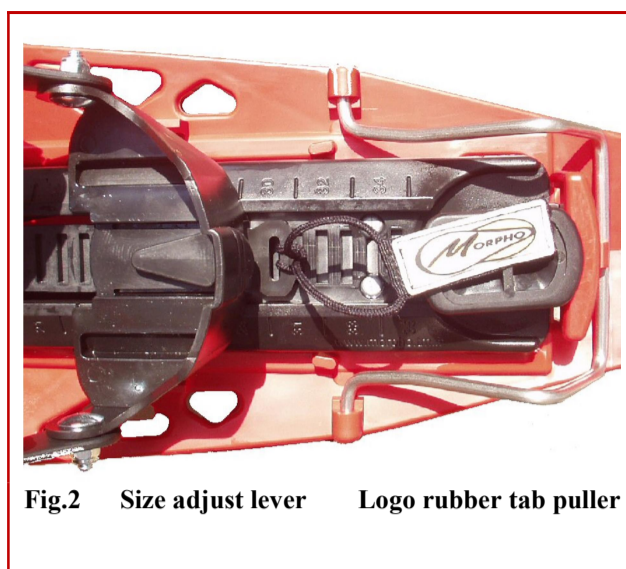
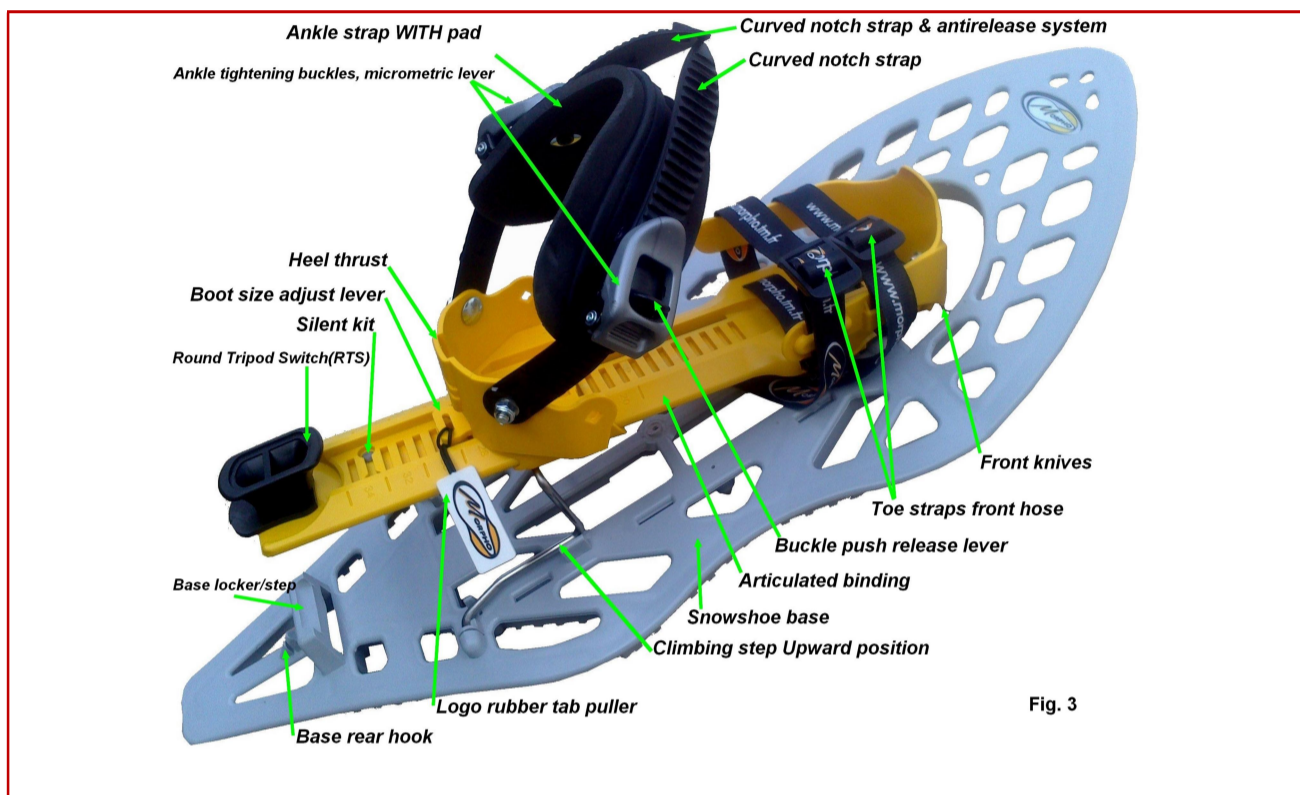

Fig.2 Size adjust lever Logo rubber tab puller
Fig. 3
1. Untighten **ankle strap** (by loosening completely one of the **two notch straps** from one of the **two buckles** of the strap) as well as the **2 toe straps** so as to insert your boots and to adjust the **heel thrust** of **articulated binding** plate to your boot size. See Fig.3
3. Adjust the heel thrust to the proper size of your boot using the Morpholock system. See Fig.2:
6. **Snowshoeing**: keep **articulated binding plate free** from snowshoe base when going flat, traverse, uphill or downhill: the **RTS** unlocked from base locker/step in all cases. The articulated binding must **lay flat** on the snowshoe base or **stepping** on the extra high **metallic climbing step** when climbing steep slopes: for this purpose rotate the **climbing step** forward in its upwards position (fig.3) from its idle position (fig.2) with your gloves.
7. **After use, untighten ankle strap** first: push on the **release levers**(black) of the ratchet buckles(grey) and pull out the ankle strap from one of the notch straps(the one without antirelease system) while keeping pressure on the **buckle push release lever**. Then untighten the 2 toe straps: pull up the ends of the quick buckles and loosen the webbings. See fig 3. Remove your boot. **To store** the snowshoe push the articulated binding on the base and lock it to the base by **rotating the RTS** so as to **insert it into the base locker/step**. See fig.2
.When rotating backward metallic climbing step to its idle position make sure to fully push it down until it is blocked by the snowshoe base **rear hook**. (fig.2)